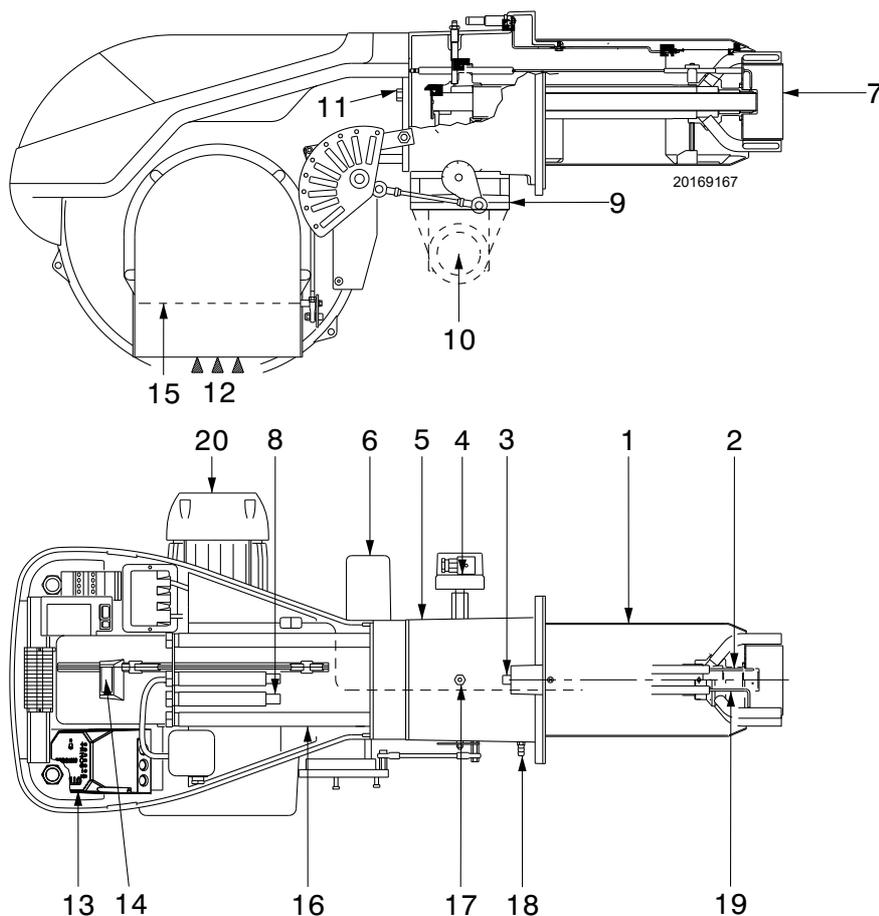

Fig. 4
- Extensions for slide bars 16)(Fig. 4). No.2